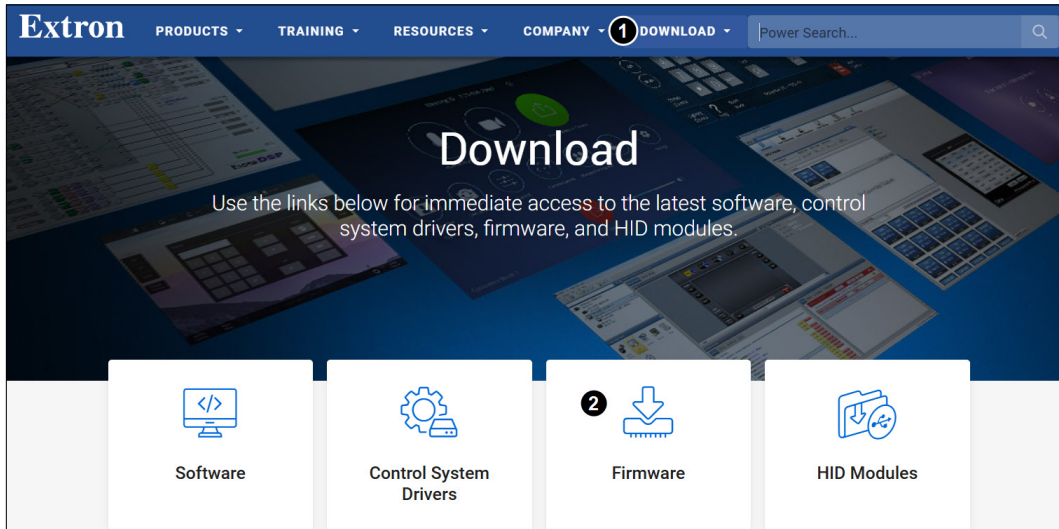

Figure 38. Firmware Download Center
1. Open the Extron website and select the **DOWNLOAD** tab (see figure 38, ❶).
2. Click the **Firmware** (❷) option at the bottom of the page.
Unlike other Extron devices, VCPs introduce the nuance of virtualization into the environment. The VCA is similar to other devices, but there are some important points to be made about the VCPs: In order to apply changes made to the 802.1X settings of any of the VCPs, the uplink that connects to the physical appliance (the VCA) has to be cycled down and back up. This cycle can be accomplished by setting that link-down and up from the switch or by rebooting the VCA. In figure 38, the red X shows where recycling the link refreshes the 802.1X settings and sends a new request to the Authentication Server.